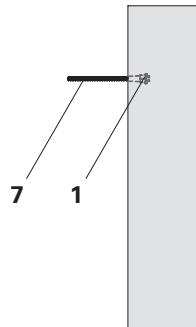
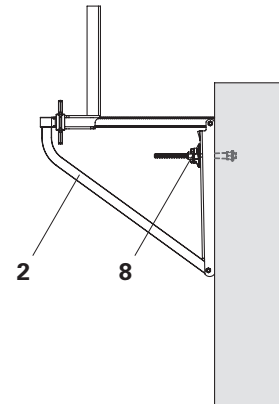

Fig. A2.02
Fig. A2.03
- Screw the Tie Rod B 15, L = 0.30 m (7) into the Stopped Sleeve DW 15 (1). (Fig. A2.02)
- Position Formwork Bracket-2 (2) in the specified place.
- Fasten Formwork Bracket-2 (2) with Wingnut Counterplate DW 15 (8) and firmly tighten Wingnut Counterplate DW 15 (8). (Fig. A2.03)